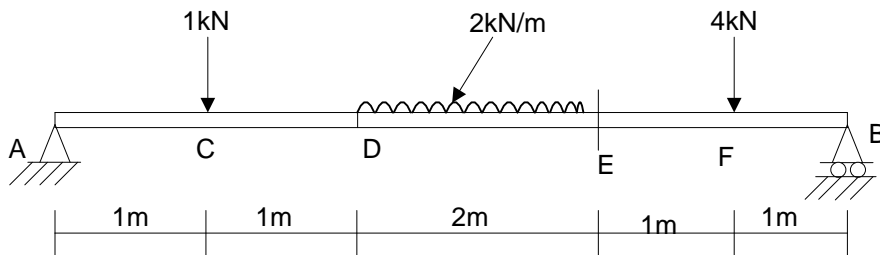

Figure 2
2. Draw the shear force diagram (SFD) and bending moment diagram (BMD) for the beam loaded as shown in Figure 2. Clearly mark the position of the maximum bending moment and determine its value. (20 Marks)